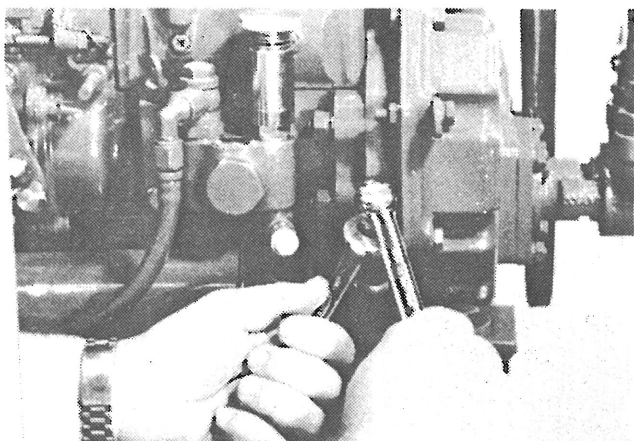

Figure 24 - Remove oil cap on oil tube
- A hand pump for easy crankcase draining is shipped loose with every Luger engine. See figures 24 and 25.
- Remove the cap from the oil tube (figure 24)